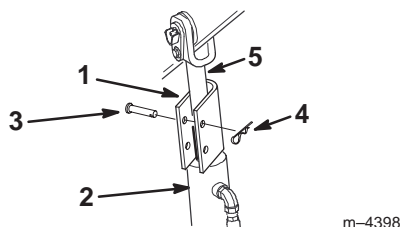

Figure 13
4. Position a loader arm cylinder lock over each lift cylinder rod (Fig. 13).
5. Secure each loader arm cylinder lock with a clevis pin and cotter pin (Fig. 13).